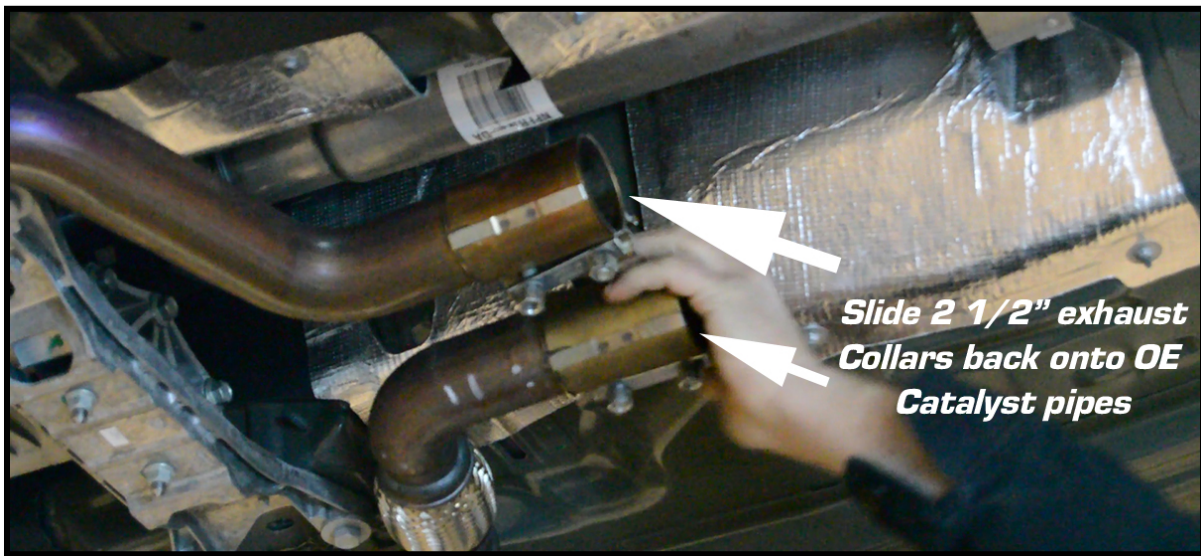

FIGURE 3
**STEP 4:** Slide the 2 ½" OE collars over the factory Catalyst pipes. (fig 3)